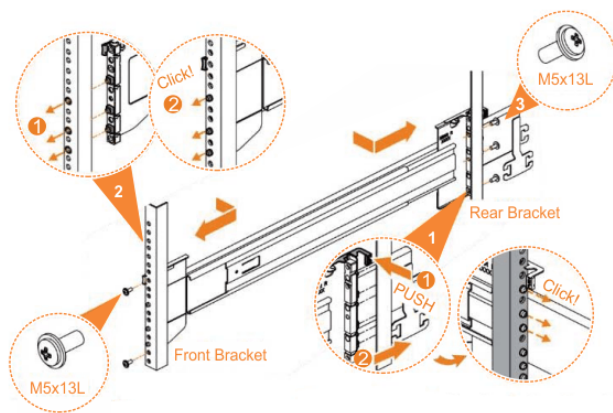

Figure 30. Installing the rail assembly to the rack frame
6. Use the M5 screws to install the outer rail member and bracket assembly to the rack, as shown in Figure 30 on page 44.